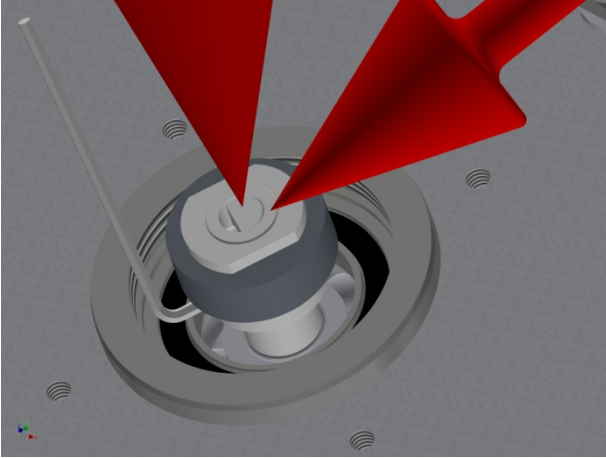

Figure 55 – Installing the magnet flush on the magnet shaft
2. The top of the magnet must be flush with the magnet shaft, as shown in Figure 55